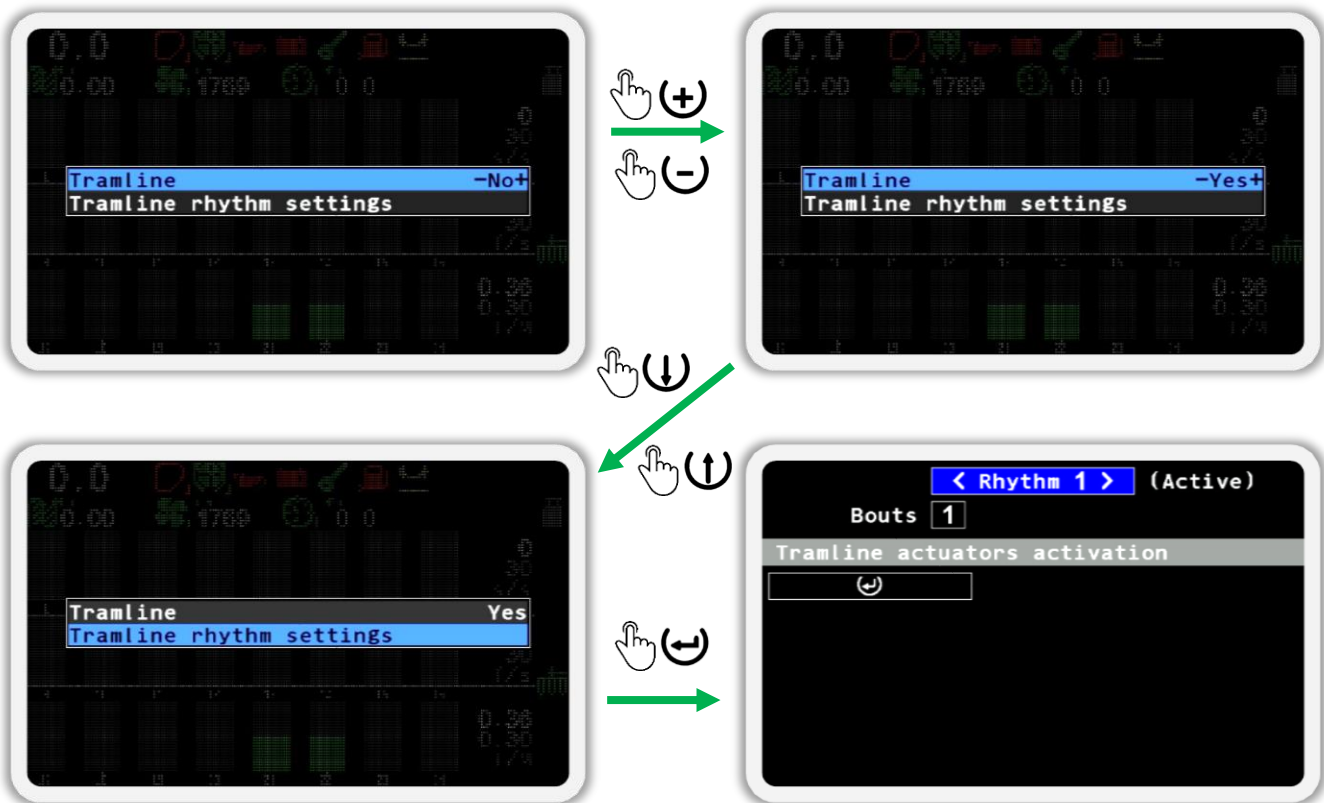

Figure 38
2. Press the  “Menu” button. As a result, the menu of tramline rhythm settings will be displayed on the screen. In the  “Tramline” item set the value to “Yes” (use the  “Plus” or  “Minus” buttons). Next, go to the  “Tramline rhythm settings” menu item and press the  “Menu” button. As a result, the screen for setting up the tramline rhythm will appear (see Figure 38).